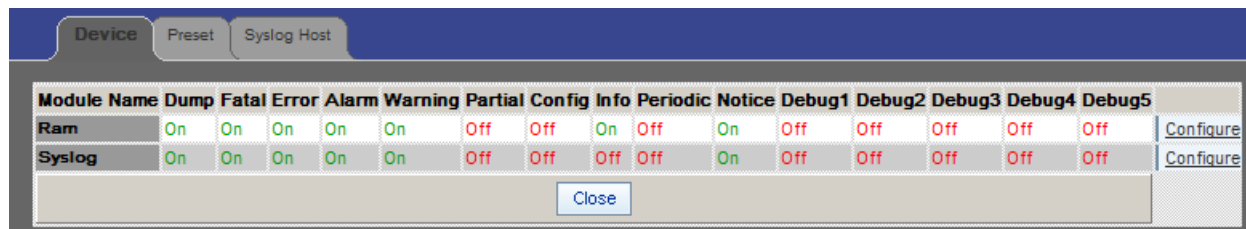

Figure 1-24 Log System Configurator: Device Tab
3. The **Log System Configurator (Device Tab)** window is displayed (Figure 1-24).